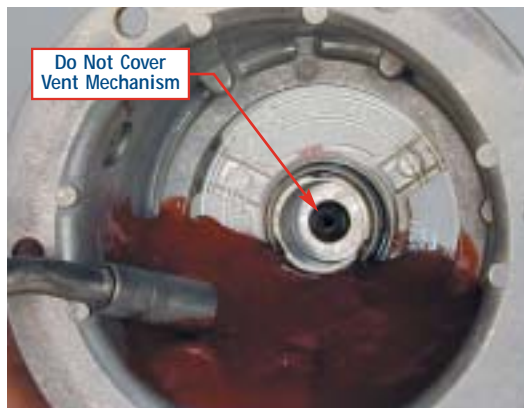

Figure 1 Fill Level for Semi-Fluid Lubricant
1. Holding the hub cap as shown in Figure 1, fill the lower side of the hub cap until level with the inner edge of the mounting flange and the edge of the vent mechanism. Table 1 provides the approximate volume of lubricant necessary for each hub cap part number. **DO NOT COVER THE VENT MECHANISM WITH LUBRICANT!** This will result in “filming” or seepage of lubricant from the vent onto the external face of the hub cap during initial operation.